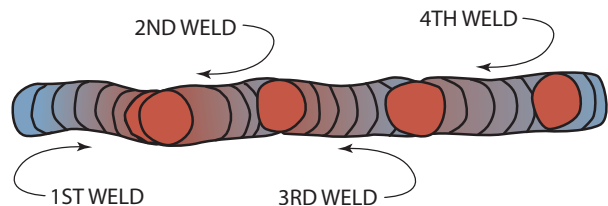

FIGURE 28-2 Welding sequence to produce the minimum weld stresses. © Cengage Learning 2012
- Welding procedure—The size of the weld bead, the number of welds, and the length of the welds all affect the weld. When large welds are needed, it is better to make more small welds than a few large welds. The small welds serve to postheat the weld. They reduce stresses and result in less distortion. Sometimes a series of short back-stepping welds can be made, Figure 28-2. For example these short welds can be used on very brittle metals like cast iron.